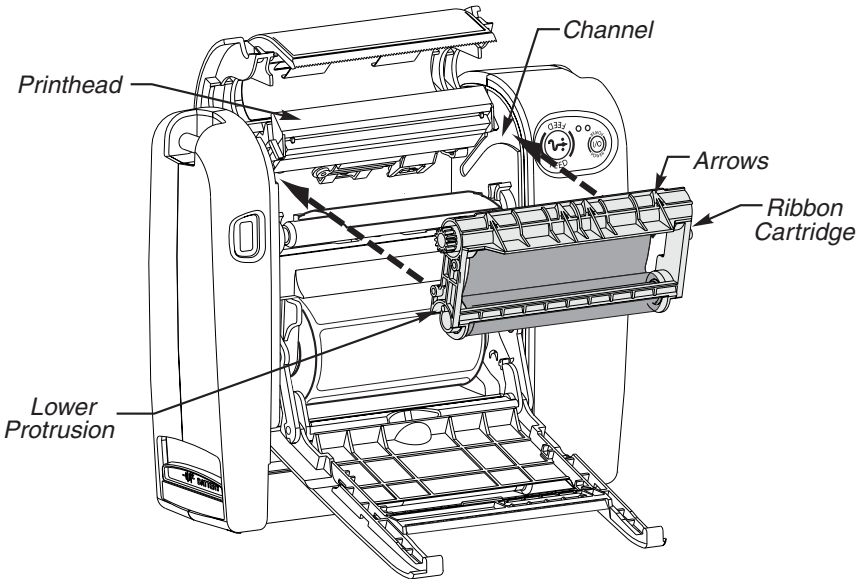

FIGURE 14
2. Hold the ribbon cartridge as shown in Figure 14. The placement arrows should be visible and pointing toward the back of the printer.
3. Align the lower protrusions on both sides of the ribbon cartridge with the channels in the left and right frames (refer to Figure 14).